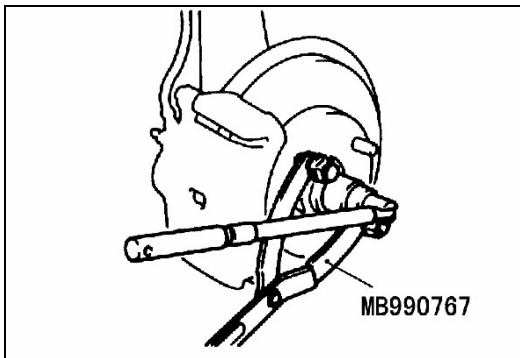

Fig.12-20
(1) Drive shaft nut removal see Fig.12-20